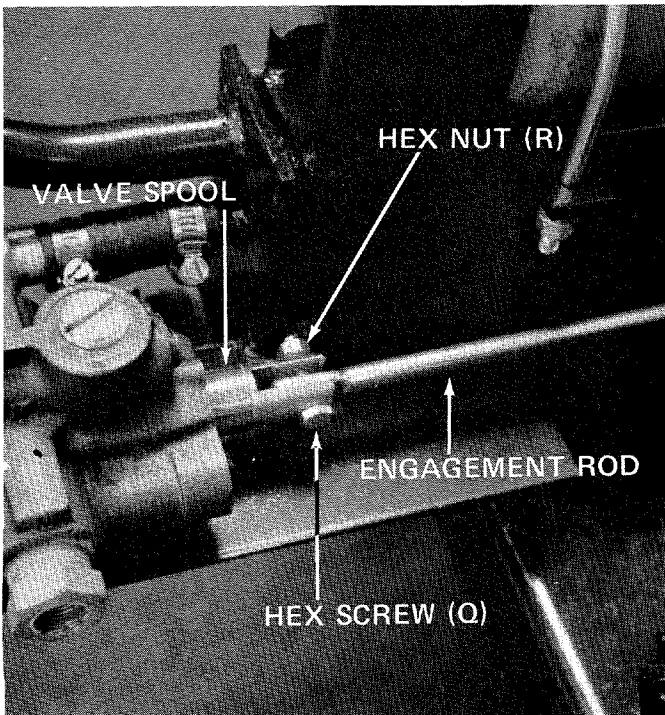

FIGURE 7
- Place end of engagement rod on valve spool and secure with hex screw (Q) and hex nut (R). See figure 7.